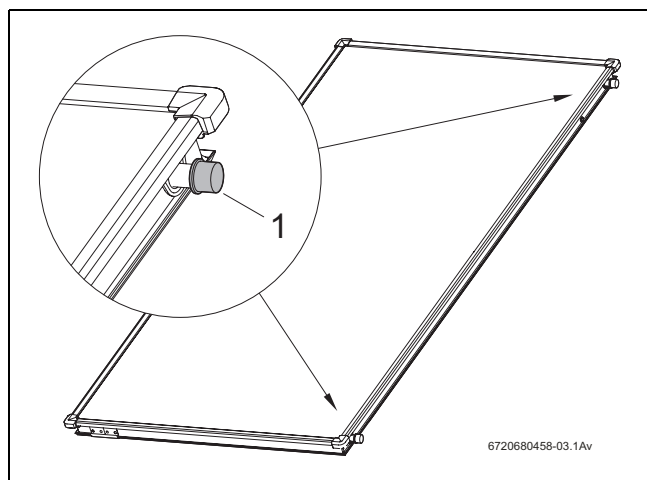

Fig. 6 Plastic caps and collector connections
- Do not remove the plastic caps (Fig. 6, [1]) until immediately prior to installation.